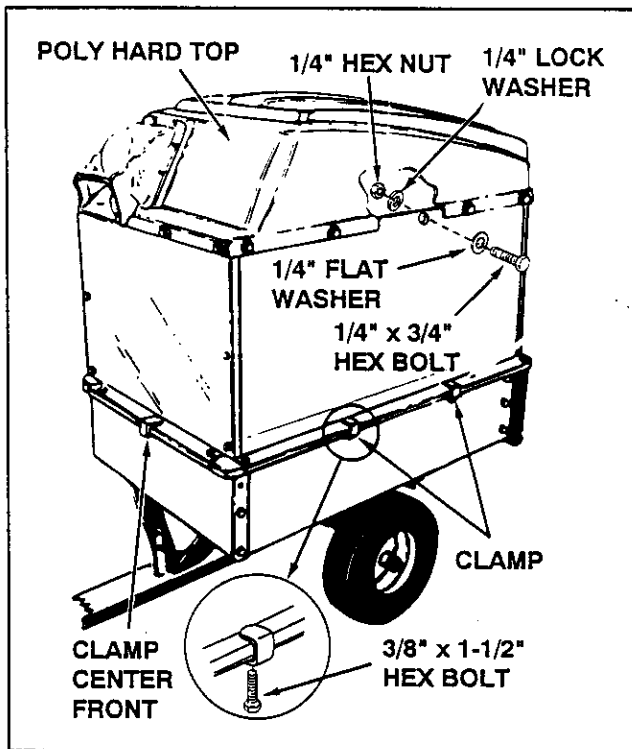

FIGURE 17
- Install the poly hard top over the front and side panels. Fasten using fourteen 1/4" x 3/4" hex bolts, 1/4" flat washers, 1/4" lock washers and 1/4" hex nuts. See figure 17.
- Assemble the five clamps onto the cart flanges, placing one in front center and two on each side, positioned approximately 12" from each end. Use a 3/8" x 1-1/2" hex bolt to secure each clamp from the bottom. See figure 17.